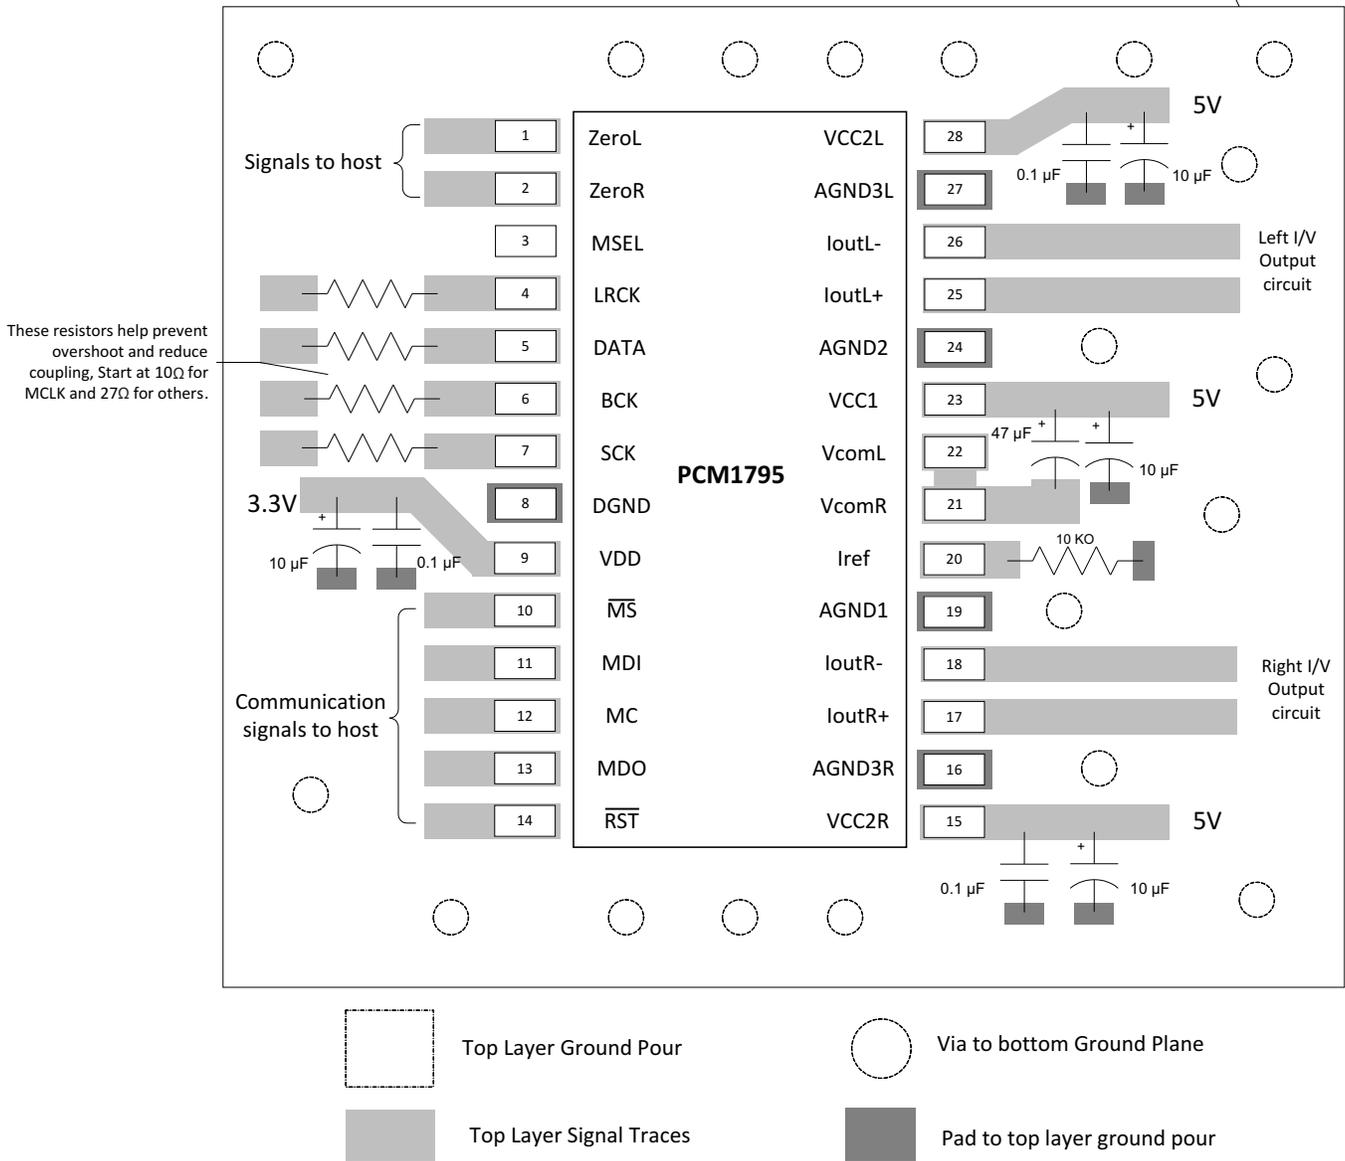

Figure 83. Layout Recommendation
- Further guidelines can be found in Figure 83.